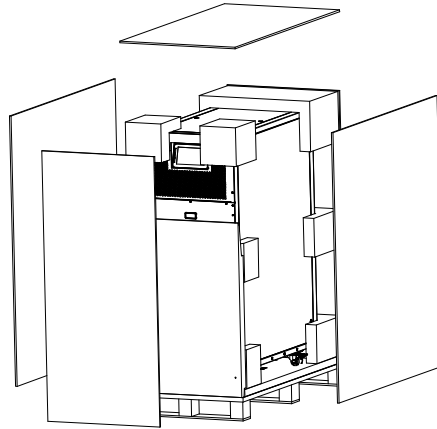

Figure 3-1 Disassemble the case
- (1) Check if any damages to the packing. (If any, contact to the carrier)
- (2) Transport the equipment to the designated site by forklift.
(3) Unpack the package as shown in Figure 3-1.